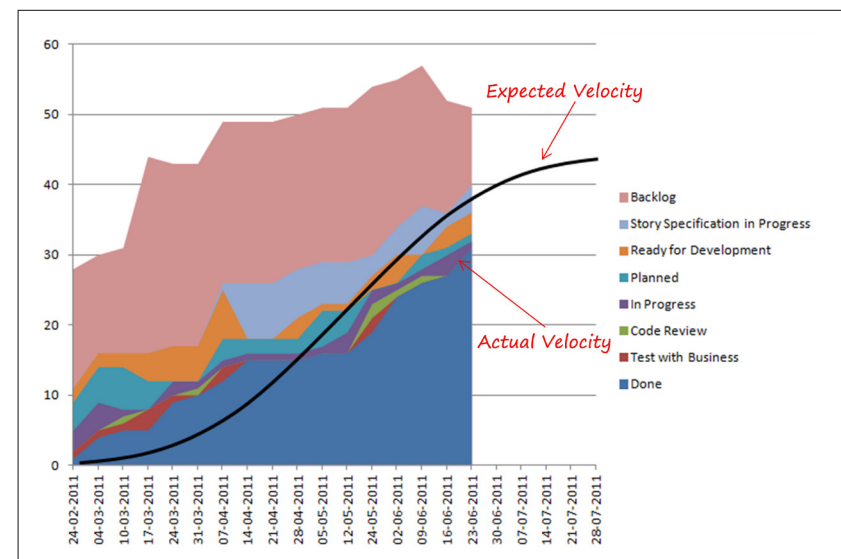

Fig. 20 Release Plans Visualized on the Cumulative Flow Diagram
Figure 20 shows an example of a S-curve on top of a CFD. As you can see the backlog was expected to increase by around 40 percent (from experience), from 28 to 40 points, but at one point had grown to more than double the size (57). While starting out with a higher than expected velocity, velocity dropped half way through the release (in this case because of quality problems).